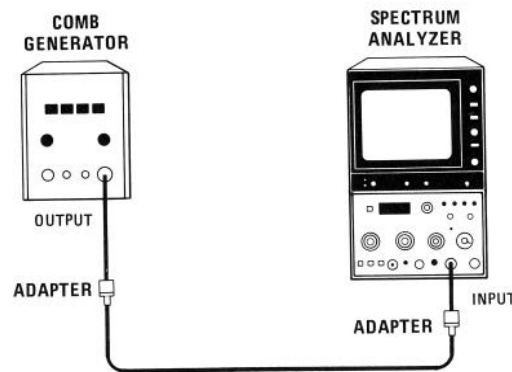

FIGURE 4-4. TUNING ACCURACY TEST SETUP
3. Connect equipment as shown in Figure 4-4.